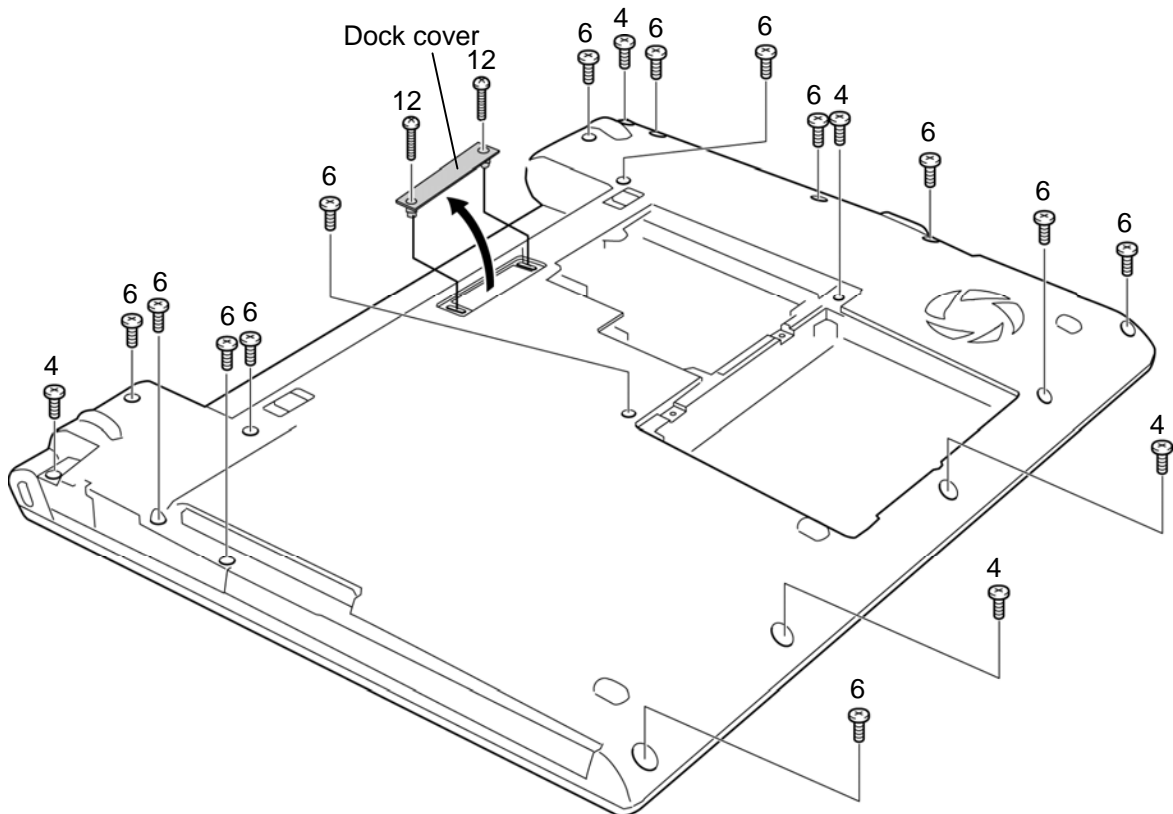

Figure 4-13 Removing the base assembly (3)
- M2.5×6B FLAT HEAD screw ×13 (Described as “6” in the Figure 4-13)
- M2.5×4B FLAT HEAD screw ×5 (Described as “4” in the Figure 4-13)
- M2.5×12B FLAT HEAD screw ×2 (Described as “12” in the Figure 4-13)